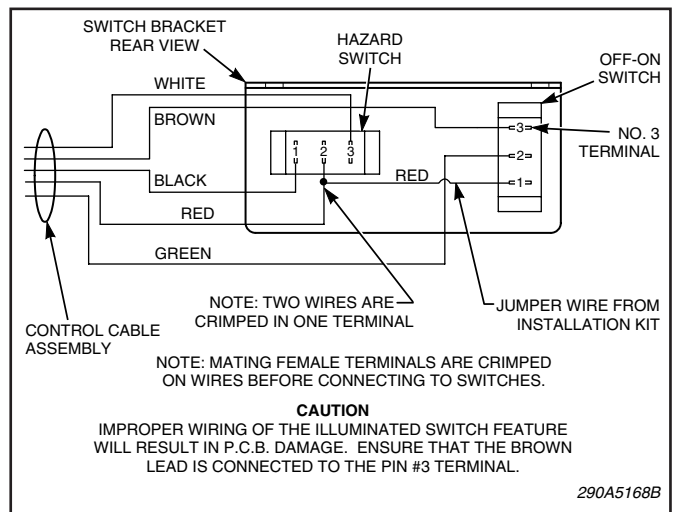

Figure 2.
b. See figure 2. Crimp five 1/4" straight terminals on the cable wire ends and jumper wire combination.
c. Connect the terminals on the switch as shown in figure 2.